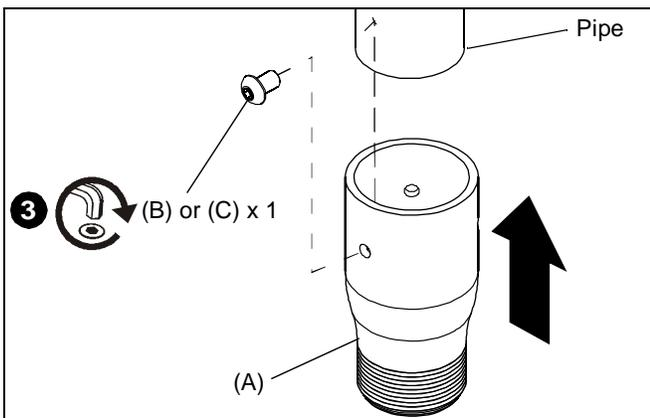

Figure 2
3. Slide CMS-261 (A) onto end of pipe and attach with a 5/16 x 1/2" button head cap screw (B) or 5/16 x 1/2" button head security cap screw (C). (See Figure 2)